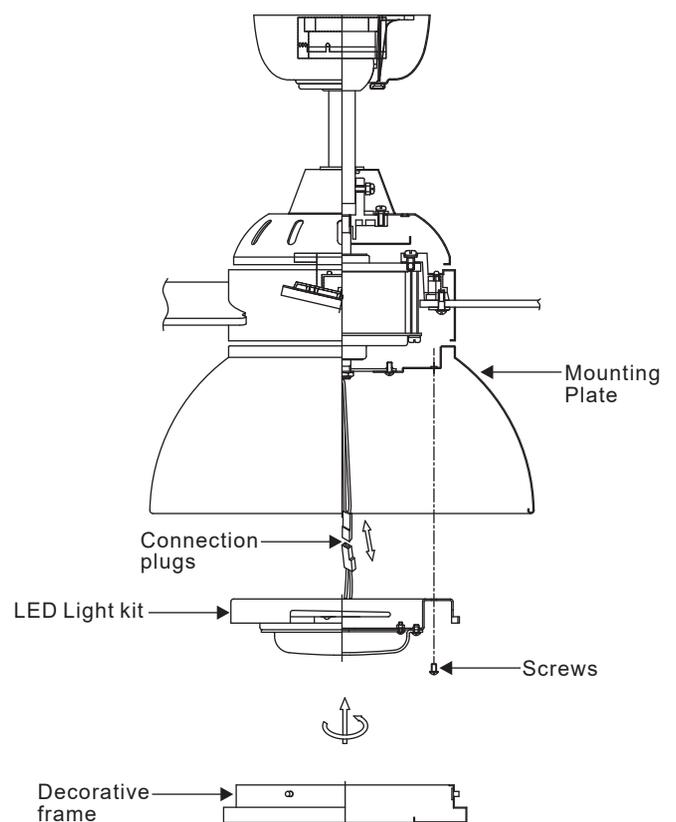

Figure 13
Step 1. Remove the four light kit mounting screws from the posts of the mounting plate. (Fig. 13)
Step 3. Place the LED light kit to the mounting plate with the four light kit mounting screws previously removed. Securely tighten the four light kit mounting screws. (Fig. 13)
Step 4. Raise decorative frame up against the LED light kit, and secure it to fan by turning decorative frame clockwise until snug. Do not overtighten. (Fig. 13)